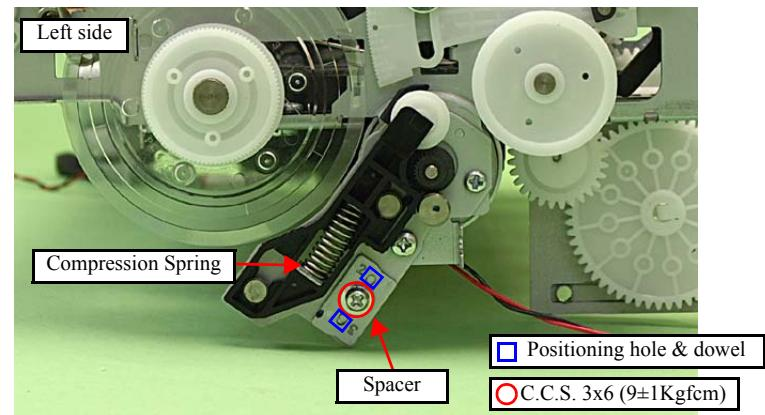

Figure 4-118. Removing the PF Motor (1)
2. Remove the screw (x1) that secures the Spacer, and remove the Spacer. (See Fig. 4-118.)
- When installing the Spacer, align the positioning holes (x2) of the Spacer with the dowels (x2) of the Holder. Make sure there is no gap between upper left end of the Spacer and the Tensioner. If there is a gap, turn the Spacer around or over so that another letter (2, 4, or 1) comes to the upper left and install it. (See Fig. 4-118 and Fig. 4-123.)